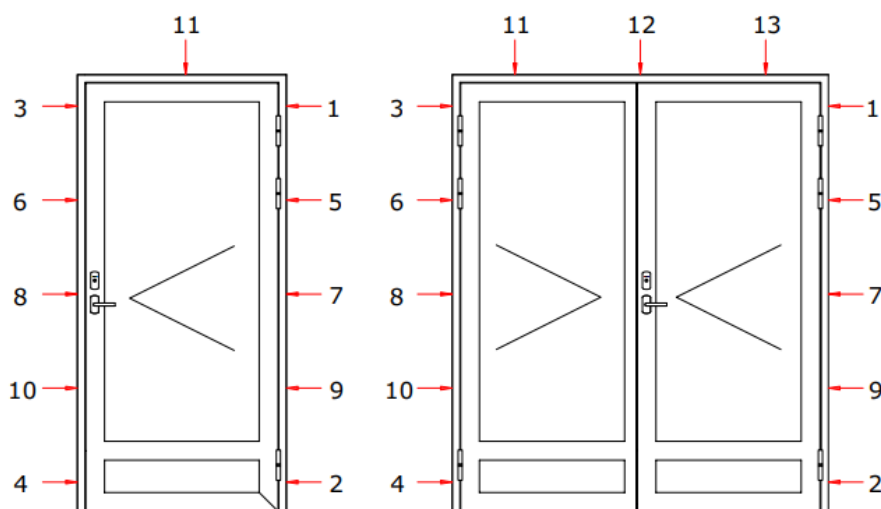

Figure 4 Sequence of fixing points for doors
6. Level the hinge side of the frame and drill the first fixing point through frame. Correct sequence of the fixing points is shown in the figure 4.
8. Fix the frame with remaining fixing points (Figure 4). Support blocks must be added next to every fixing point. Tighten the screws.